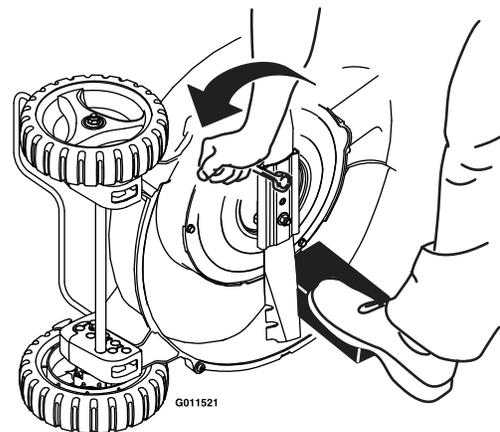

Figure 21
- A. To remove the blade, use a block of wood to hold the blade steady (see Figure 21). Make sure to grasp the end of the blade using a rag or a thickly padded glove.